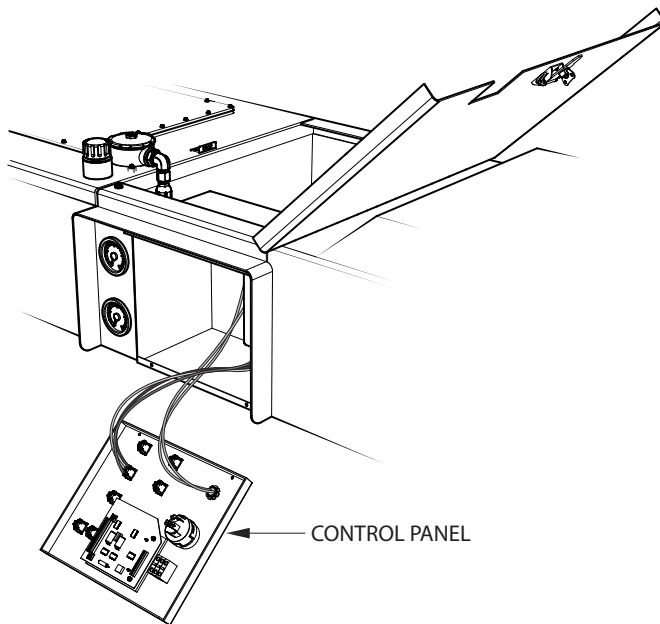

Figure 5. Digital Control Box Access
2. Tilt the front panel downward (Figure 5) and let it hang. This will allow for easy access inside the control box.